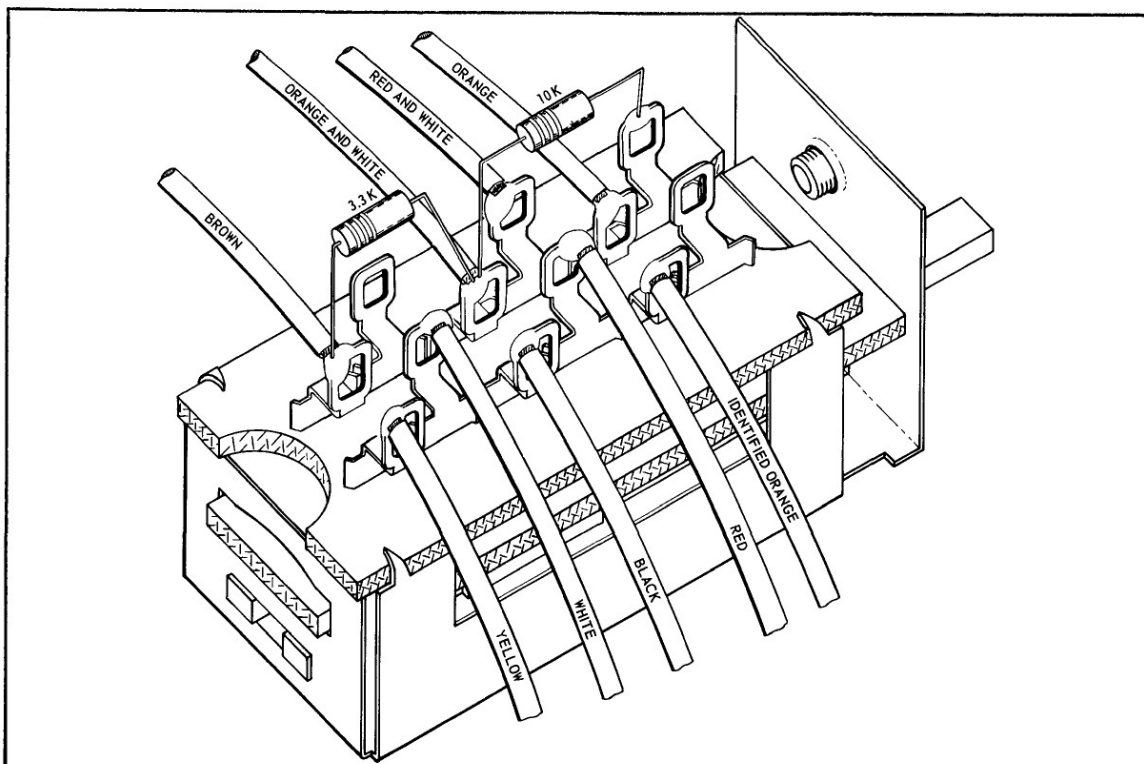

Figure 12-5. Replacement of AltiMatic III Pitch Engage Switch
4. Remove the switch from the Console. Make sure all wires have the same color as those shown in Figure 12-5. If not, identify any which are different. DO NOT unsolder any wires at this time.
5. Orient the switch so the shaft is extended to the right and the soldering terminals are visible. (Refer to Figure 12-5.)